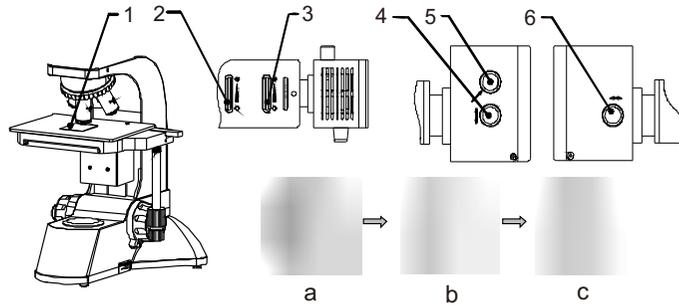

Fig.7
- (1). Prepare a piece of white paper 1 (about 40mm×50mm) and place it on the working stage, press it with spring clip 1.
- (2). Take out a objective from the nosepiece and turn to make the through-hole into optical path.
- (3). Open the field diaphragm 2 and aperture diaphragm 3, At this point, a bright light spot will be shown on the white paper, with a filament image inside, as shown in Fig.7-a
- (4) If the filament image is unclear, adjust the collector lens to make clear by adjusting knob 6
- (5) If the filament image deviates from the center of the bright light spot, as shown in Fig.7-b, the bulb center should be adjusted, adjust the lamp transverse adjustment knob 4 and vertical adjustment knob 5 to calibrate bulb center.